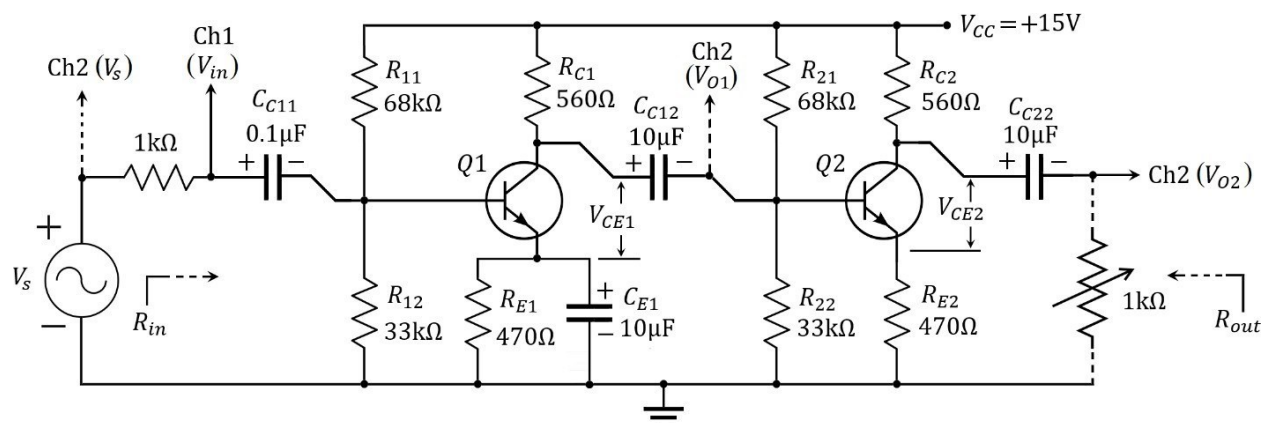

Figure 1: RC-coupled 2-stage common-emitter amplifier
1. Construct the circuit as shown in **Figure 1**. Verify that both the transistors are properly biased in the active region, i.e., $V_{CE1} = V_{CE2} \approx V_{CC}/2$.